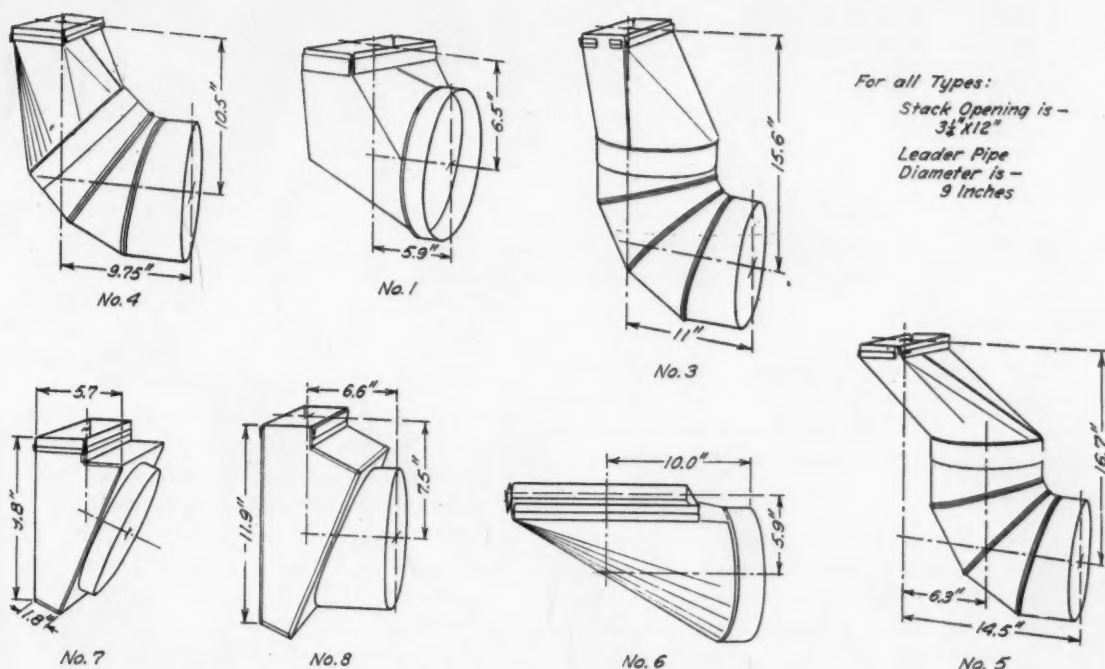

FIG. 11. TYPES OF BOOTS TESTED
3. *Description of Boots.*—Of the large number of available models and types of boots, those shown in Fig. 11 were selected as typical of those most commonly used in practice, and for convenience in reference they have been designated by number. In all cases the boot was used as the connection between a leader pipe 9 in. in diameter and a 3¼ in. by 12 in. stack of single-wall construction.